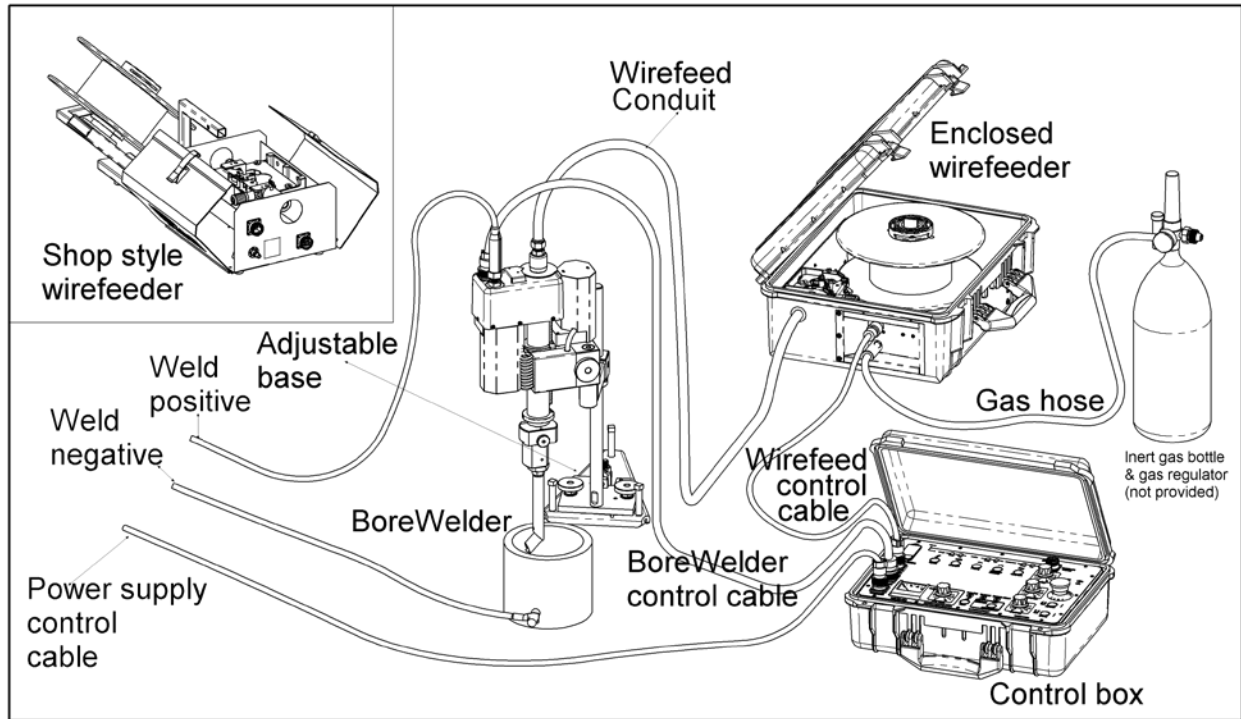

Figure 1. BoreWelder and Major Assemblies
1. Connect the control cables as shown on Figure 1.